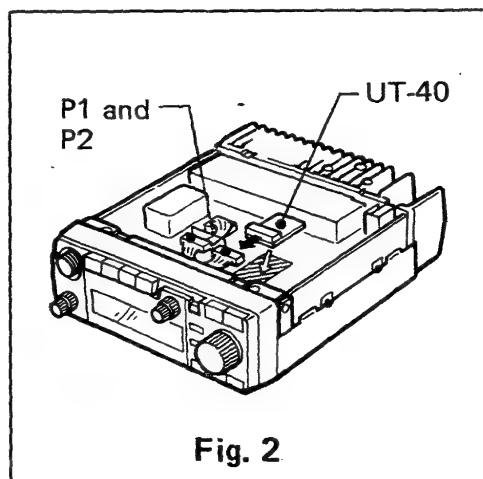

Fig. 2
- 2) Connect the P1 or P2 plug (10-pin plug) from the transceiver MAIN-A UNIT to the UT-40 connector. (Fig. 2)
- 4) Install the UT-40 in the proper position. (Fig. 2)